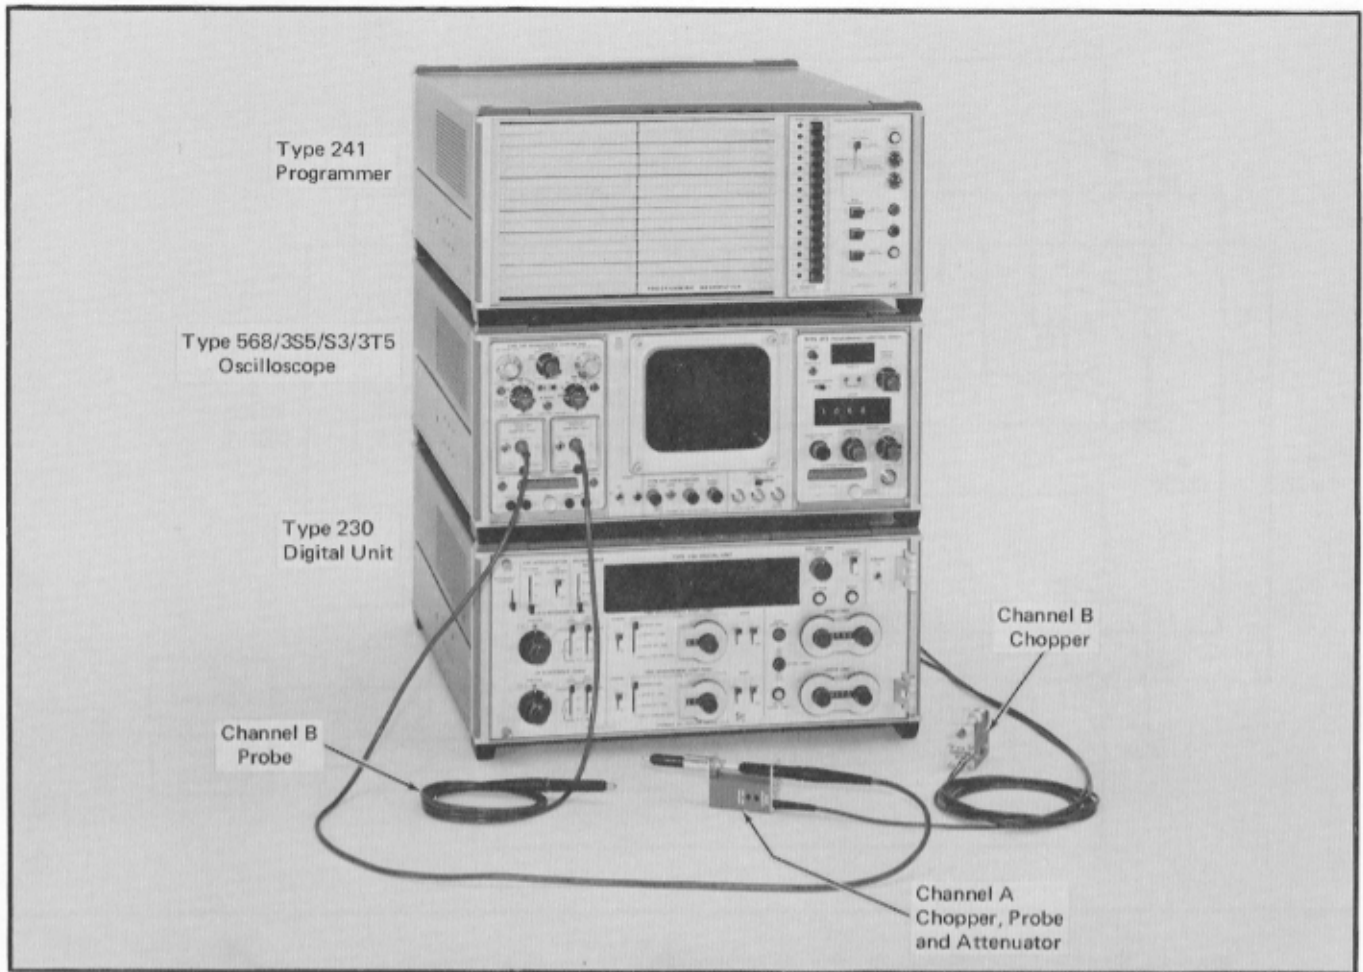

Fig. 2-14. Chopper Test Setup.
- g. Connect the BNC to Probe Tip Adapter to the Type 114 Output and insert the 10X Attenuator of the Chopper Head assembly. See Fig. 2-14 for the Chopper Test Setup.